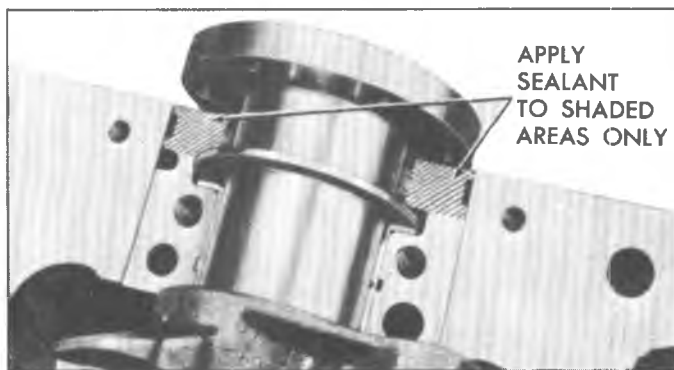

Fig. 13V—Sealing Bearing Cap
12. Install bearing cap to case with sealant applied to the cap-to-case interface being careful to keep sealant off the seal split line (fig. 13V).